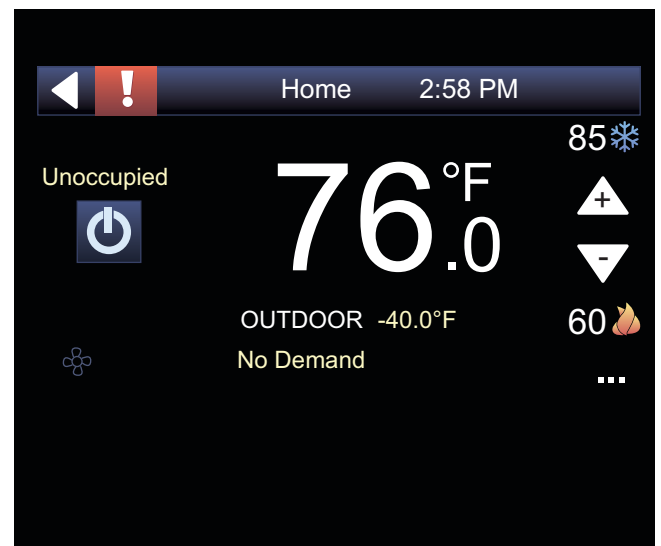

Fig. 13 — Firmware Successfully Upload
- After successful upload, Equipment Touch displays the following screen (Fig. 13).